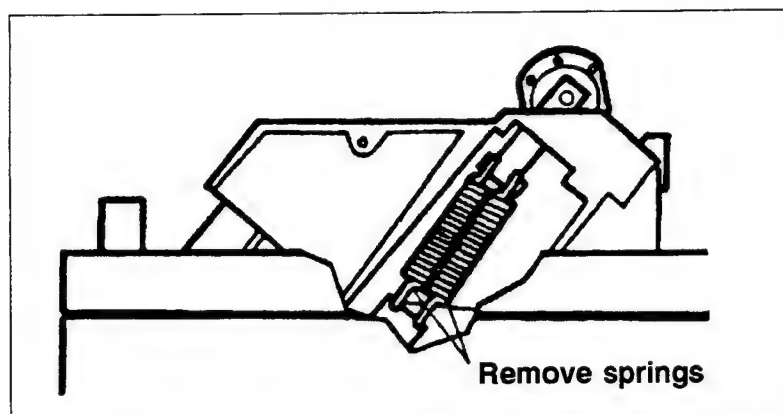

Figure 6-17. Platen Tension Springs
- With the platen lever forward (closed), use a needle-nose pliers to remove the two tension springs from the right side of the printer (see Figure 6-17).